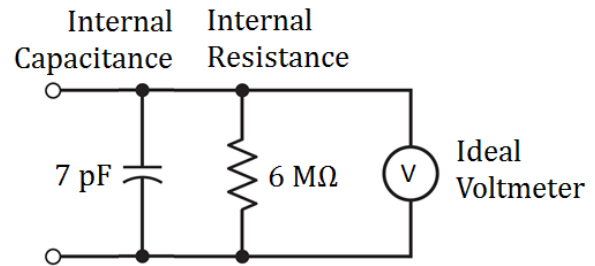

Fig. 4. Equivalent circuit for the oscilloscope
14. An oscilloscope measures and displays voltages continuously with respect to time. Therefore, it can be considered as a voltmeter with an equivalent circuit similar to Fig. 4. Note that it also has an internal capacitance (in parallel with the internal resistance). The values of the internal resistance and capacitance are written on the front panel (also in the datasheet). Draw the equivalent circuit of the oscilloscope and record its limitations (frequency, voltage amplitudes) by checking the front panel and the datasheet.